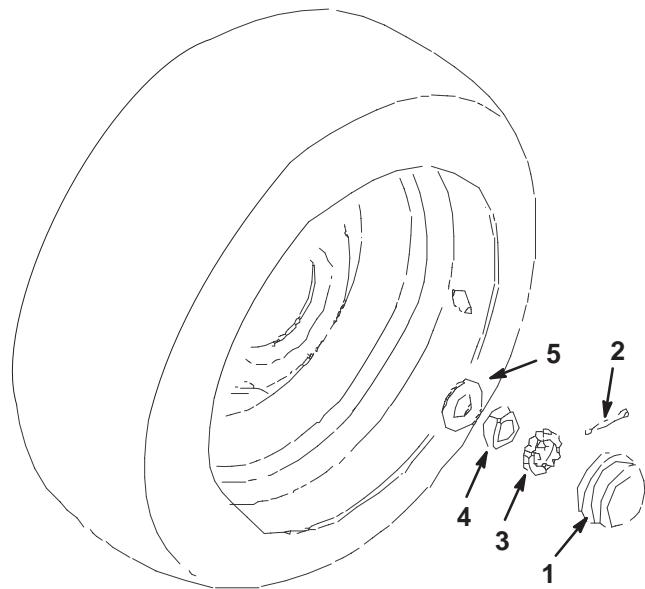

Figure 67
2. Remove dust cap from end of wheel spindle. Also remove cotter pin securing retainer (Fig. 67).
3. Tighten the jam nut (Fig. 67) to approximately 75–100 in-lbs using a hand wrench.